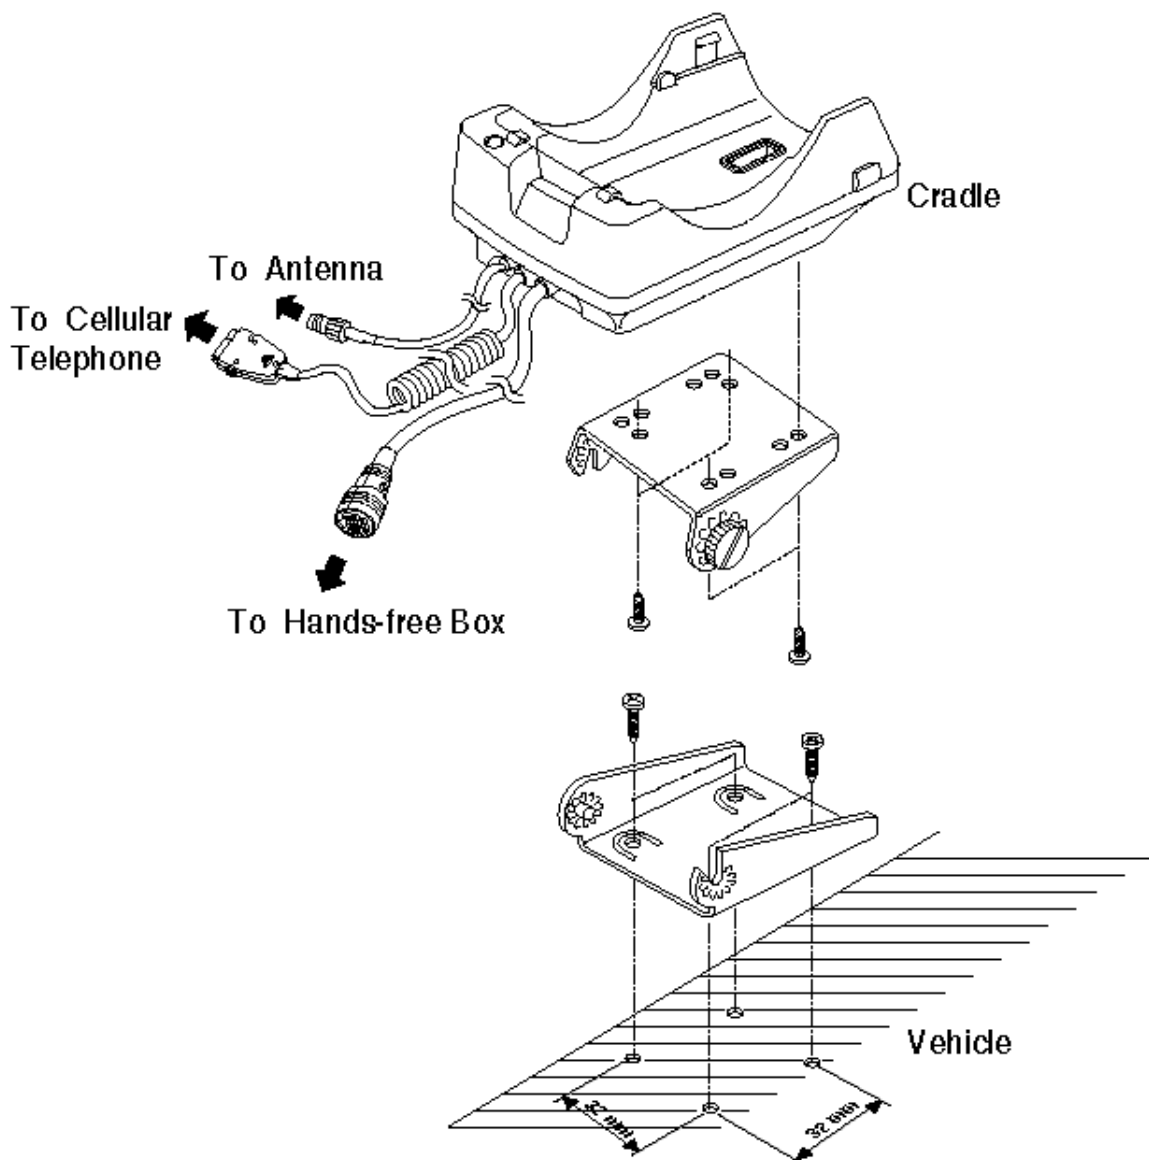

Figure 3-2 Cradle Installation
2. Separate the two halves of the clamshell by removing the two large slotted screws. See the figure 3-2.